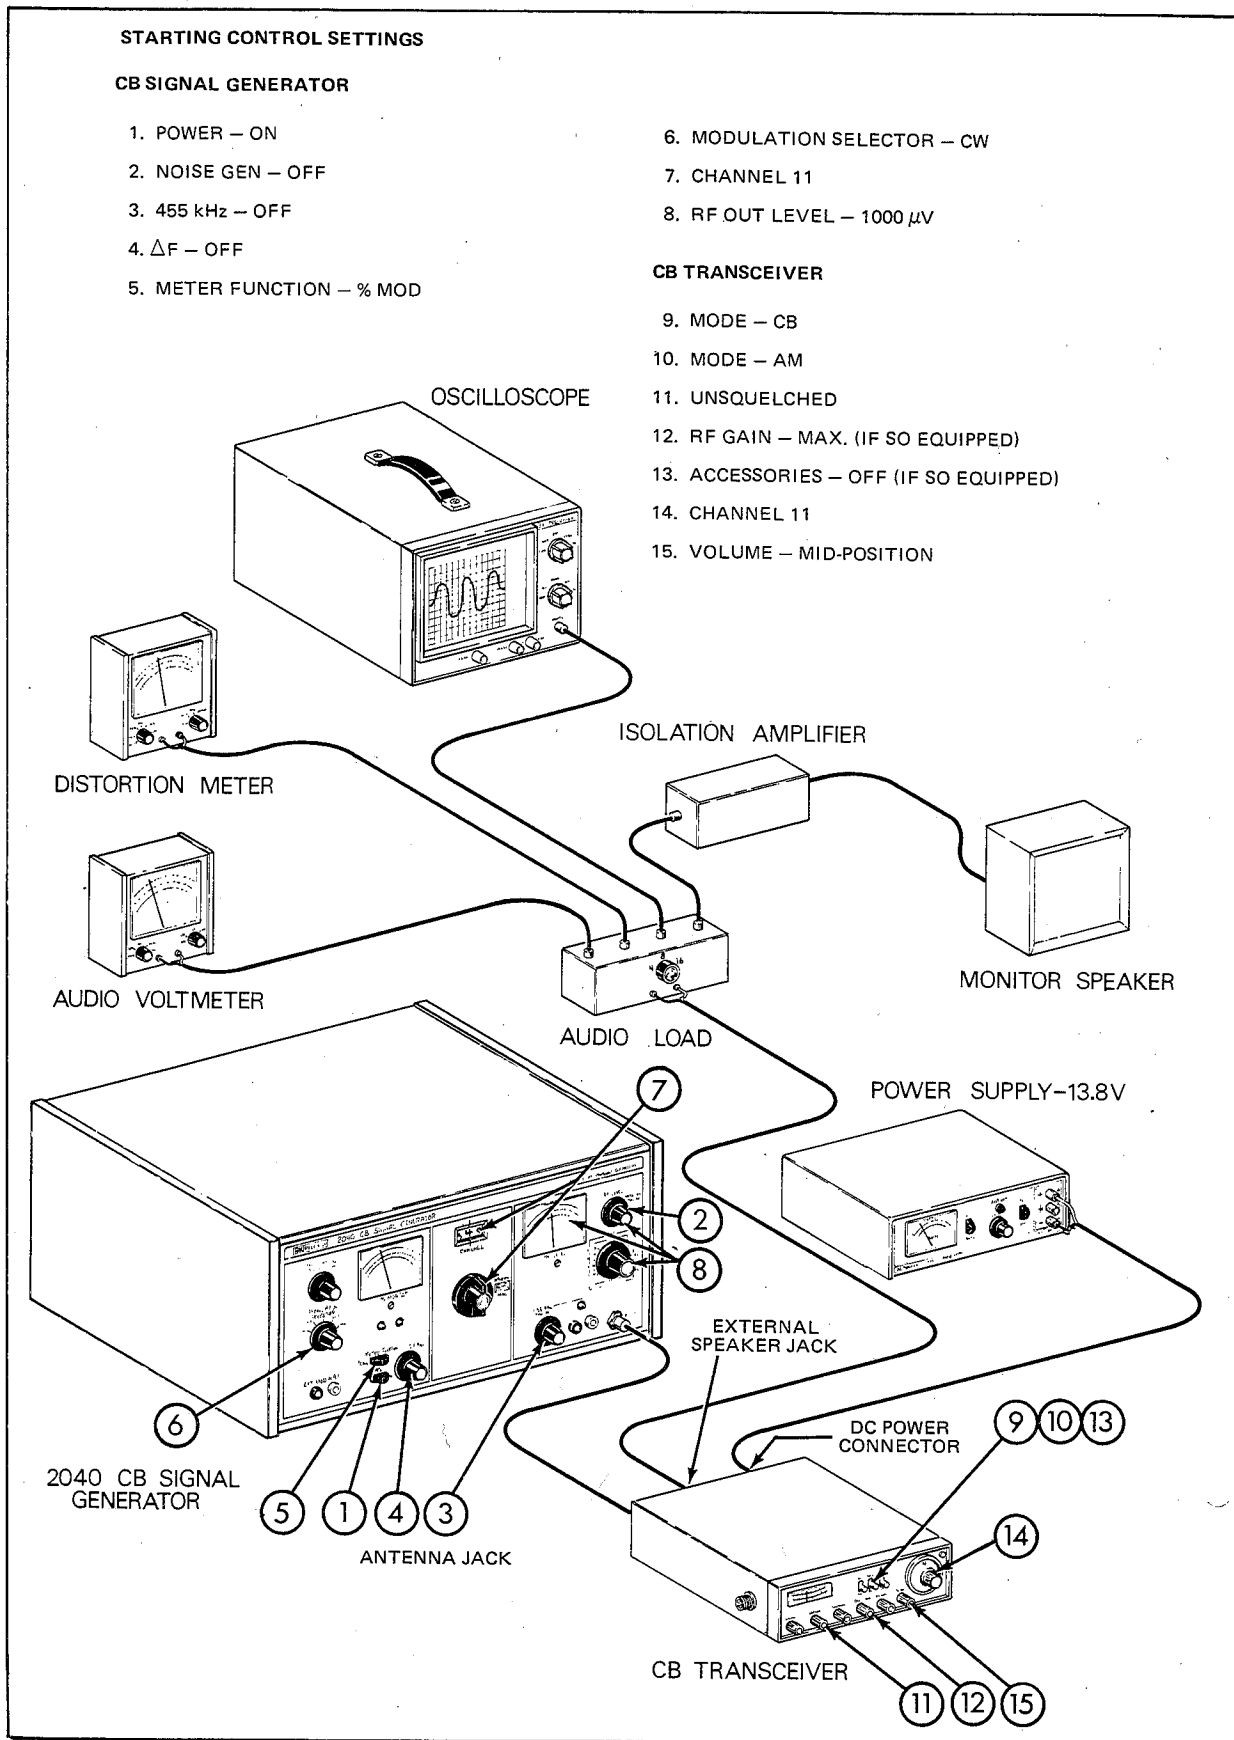

Fig. 5. Typical test equipment hookup for CB performance testing.
In addition to the CB Signal Generator, several other pieces of test equipment are required for CB transceiver performance testing. Fig. 5 shows the typical test equipment required for complete CB receiver performance testing. Fig. 6 shows how the test equipment requirements are simplified if the B & K-Precision Model 1040 CB ServiceMaster is used.
Since additional test equipment is normally connected across the audio load as shown in Fig. 5, several sets of test jacks in parallel with the audio load are very convenient.
The illustrations which accompany each test procedure show the absolute minimum of test equipment that can be used to adequately perform the measurement. However, Fig. 5 and 6 show the basic test equipment hook-up recommended for all performance tests. If either of these hook-ups is used, no changes of test equipment connections are needed throughout all the tests. Also, to test the next transceiver, only the connections directly to the transceiver need to be changed.
In addition to the test equipment connections, Fig. 5 and 6 show the initial control settings for the CB Signal Generator and the transceiver. We recommend the settings shown as the standard configuration to which the controls should be returned after each test. All testing instructions in this manual assume that the controls have been placed in this standard configuration at the start of each procedure.
1. Set the controls on the CB Signal Generator and transceiver as shown in Fig. 5.
1. CONTROLS SET PER FIGURE 5
1. Set controls on the CB Signal Generator and transceiver as shown in Fig. 5.
5. Set the channel selector (14) of the CB Signal Generator to the next higher adjacent setting. (Note that this is an unassigned frequency between channel 11 and channel 12.)
1. Set the controls on the CB Signal Generator and the transceiver as shown in Fig. 5.